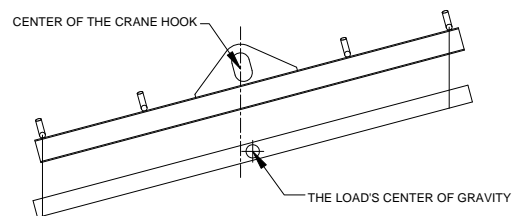

Figure 2
7. See Figure 2 & 4, the Lifting Beam is not level/horizontal, improper lifting position.